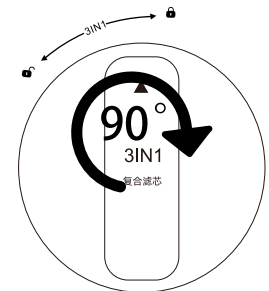

Figure 7
6. Gently press the cartridge and rotate it 90° clockwise, ensure the triangle icon on top of cartridge is pointed at  icon, See **Figure 7**.